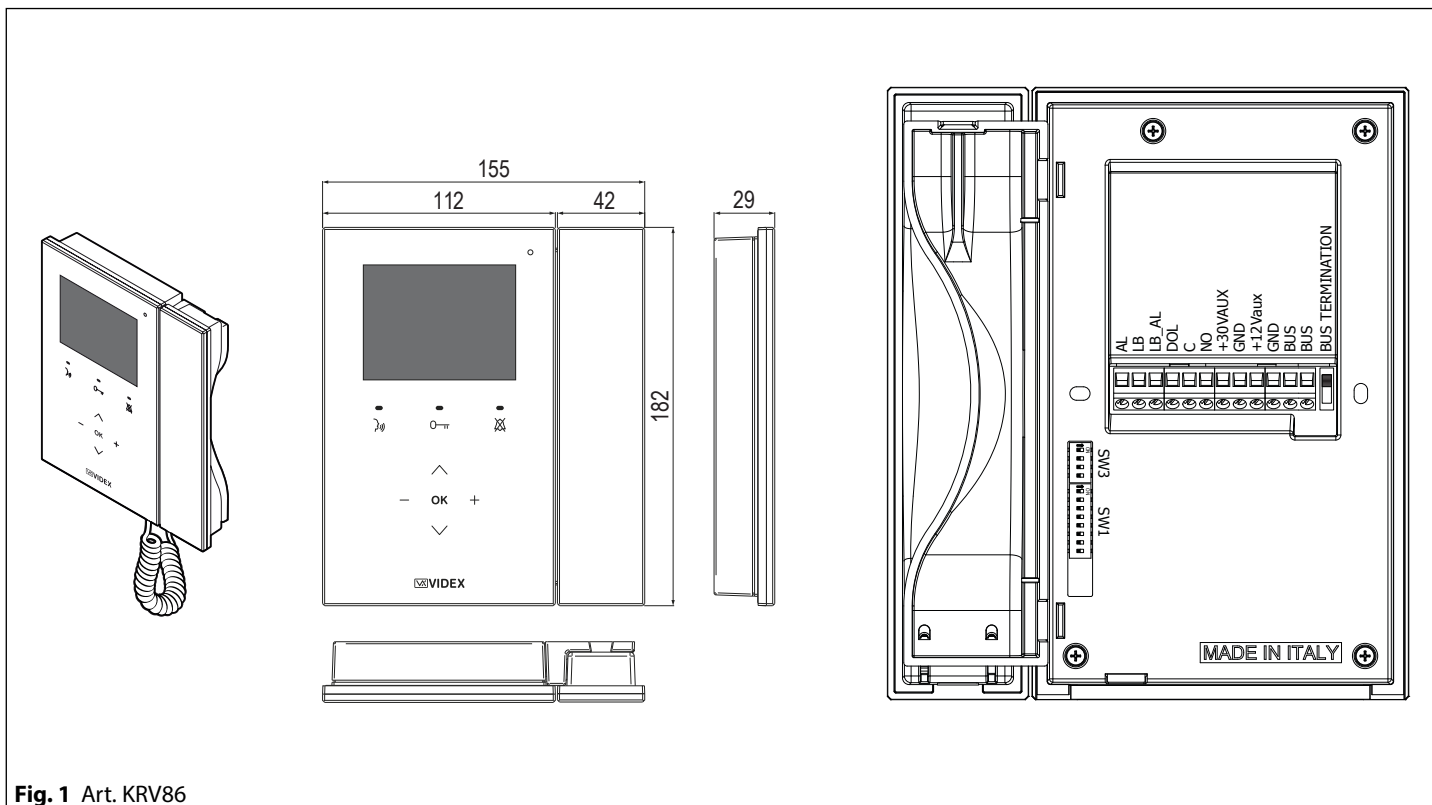
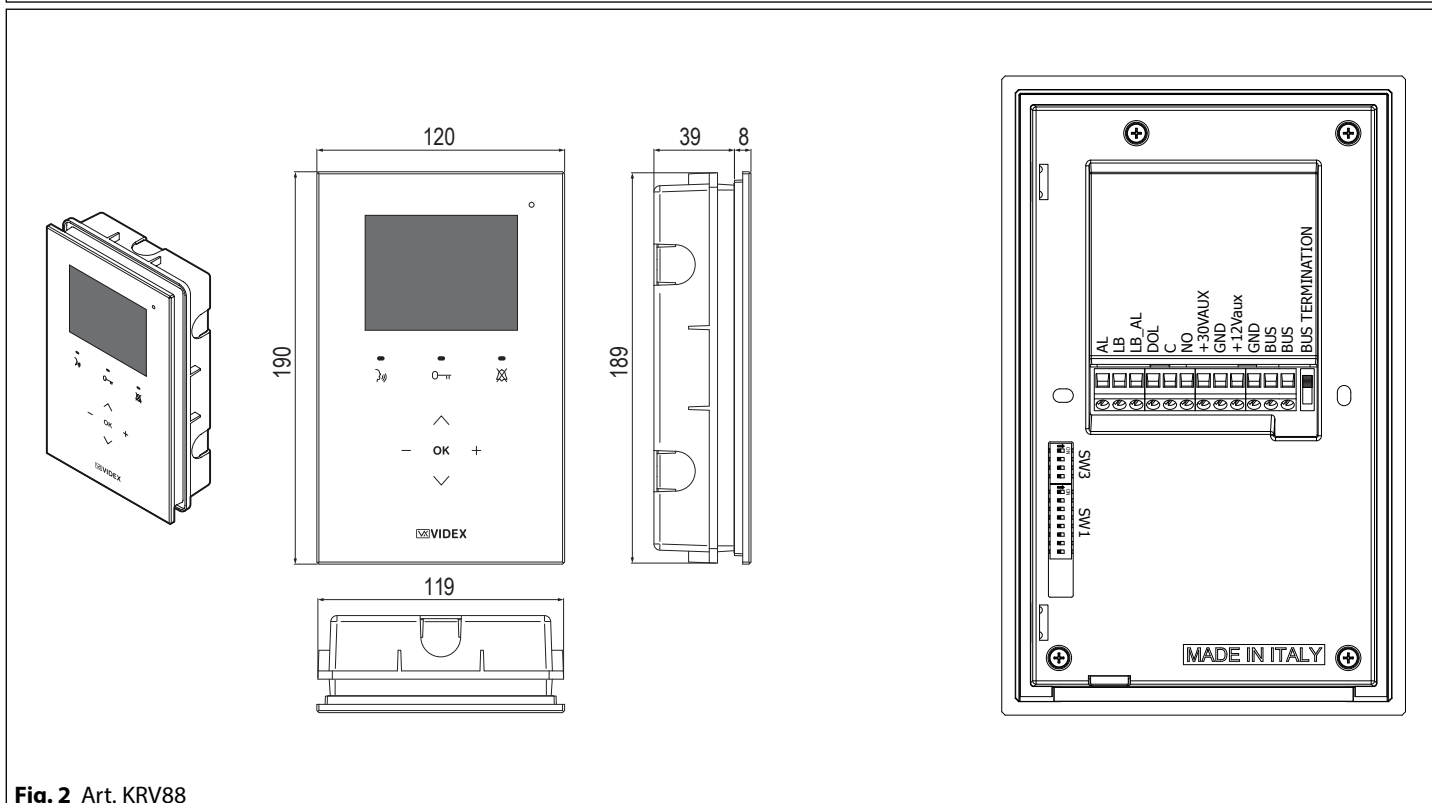
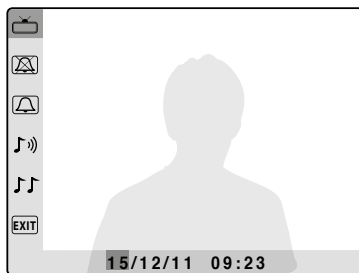

Fig. 1 Art. KRV86
Fig. 2 Art. KRV88
Fig. 3
1. In order to install the videophone, it is necessary to remove the cover, which contains all the electronics, from the base: press lightly on the right part of the videophone and simultaneously pulling outwards the left part as shown in **Fig. 1**.
2. Put the base of the unit on the wall at approx 135cm from the finished floor to match the points for the fixing holes "A" (**Fig. 2**) remembering that the wires "D" (**Fig. 3**) must be fed through the large hole "E" (**Fig. 3**). If you use the flush mounting box 503, embed it into the wall vertically at approx. 140cm from the finished floor and the base.
3. Following **Fig. 3**, make the holes "A", insert the wall plugs "B" and fix the base with the screws "C" feeding the wires "D" through the hole "E". If you have used the box 503, fix the base to the wall through the holes "F" using the screws "C".
PUSH BUTTONS AND CONTROLS (FIG. 1 - FIG. 2)
When the system is in stand-by, keep pressed the button until the monitor switches on showing the screen to the left. The first programming option is the **date & time (Fig. 3)**: